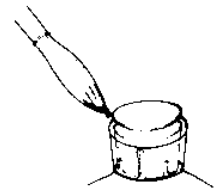

Fig. 12
6. The PVC ring must remain in position around the female. Paint cold cure acrylic into and around the female's 360° undercut (Fig. 12). Paint acrylic on the top and sides of the female.